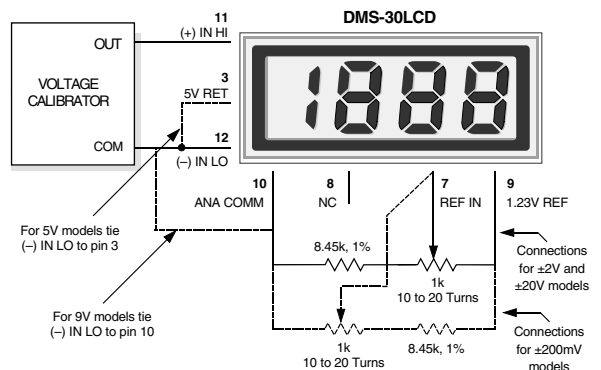

Figure 9. External Gain Adjustment
- Gain Adjust:** There is a gain-adjust potentiometer on the back of each meter. It has approximately ±50 counts (±2.5%) of adjustment range. Since these devices essentially have no zero/offset errors, a gain adjustment is effectively an overall accuracy adjustment. Though they may be performed at any point (except zero), accuracy adjustments are most effective when performed with higher level input signals. Refer to Figure 9 for applications requiring greater (±10%) gain adjustments.
7. External Gain Adjustment: Connect REFERENCE OUT (pin 8) to REFERENCE IN (pin 7) for normal, factory calibrated, operation. Use the +1.23V REFERENCE OUT (pin 9) for applications needing external gain adjustment. Figure 9 shows the wiring configuration for each model. Calibration is performed with a precise, near-full-scale, input voltage.